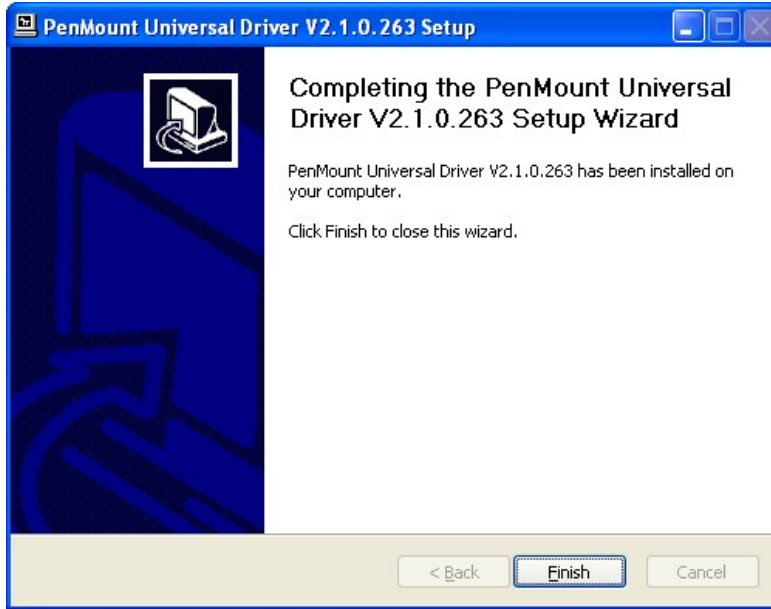

Figure 6-29: PenMount Universal Driver Update Complete
Step 10: When the installation is complete, click **FINISH** to exit setup (**Figure 6-29**).